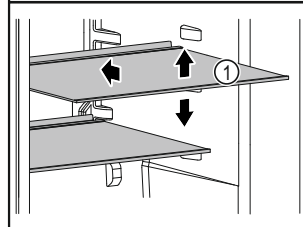

Fig. 10 Example illustration
- If storage surfaces Fig. 10 (1) are movable, adjust them according to height.